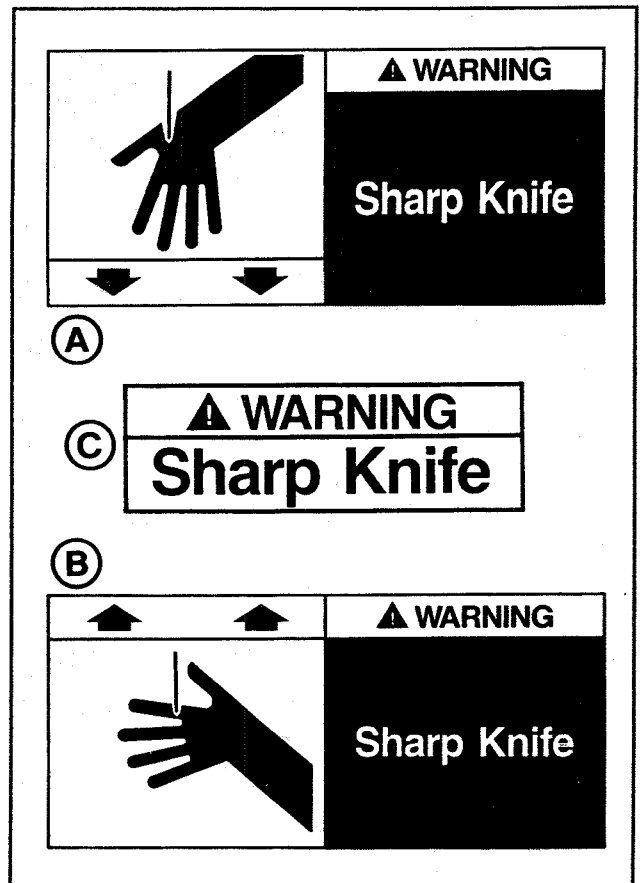

Figure 1-1 Knife Warning Label
The two illustrated labels (A-B) "Warning Sharp Knife", shown in **Figure 1-1**, are attached to the sides of the upper frame at the location of the cut-off blade on the upper taping head. Two similar labels are attached to the bed frame at the location of the cut-off blade on the lower tape head. The labels warn operators and service personnel of the very sharp knife used to cut the tape at the end of the tape application.
The "Warning - Sharp Knife" label (C) shown in **Figure 1-1**, is attached to the orange cut-off blade guard on both taping heads. The label warns the operator and service personnel of the very sharp knife located behind the guard and to keep hands out of this area except for tape loading and/or servicing the taping heads.